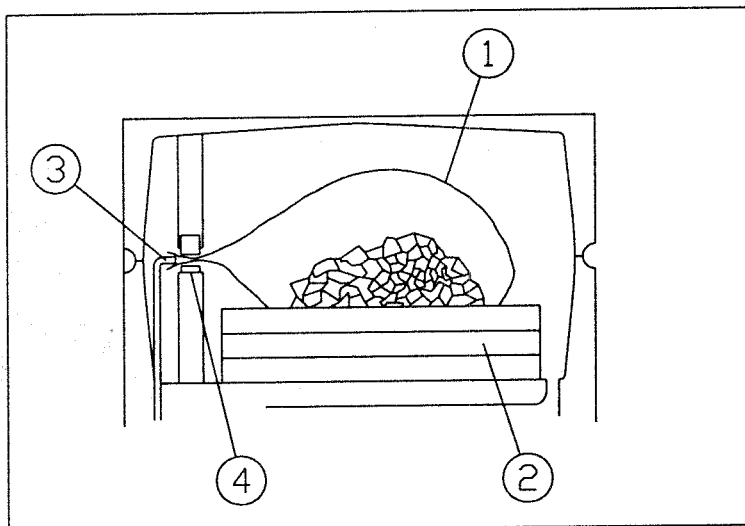

fig. 4
3. Place the produkt into the vacuum chamber. Put the opening of the bag over the sealbar (fig. 4)
2. Adjust the right height for bag by removing or placing insert plates in the vacuum chamber (fig. 4 pos 1).
- Wrinkle-free placed over the sealbar (fig. 4 pos 4) \*.
- \* If the machine has a gas flushing system, then insert the gas nozzle into the opening of the bag (fig. 4 pos 3).